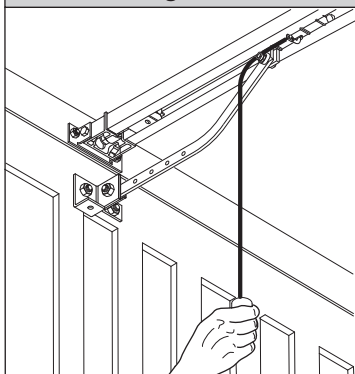

Fig. 22
- SM1** External release device to be applied to the cremone bolt already fitted to the overhead door (fig.22).